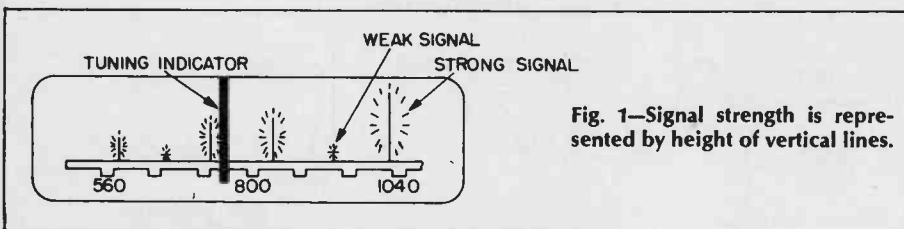

Fig. 1—Signal strength is represented by height of vertical lines.
**A Dial's-Eye view of AM.** Imagine a radio receiver with a dial which lights up at any point where a signal appears. By moving the tuning indicator to one of the lit points, the operator could hear in his loudspeaker the speech or music being transmitted at that frequency. Such an imaginary dial would appear as in Fig. 1.